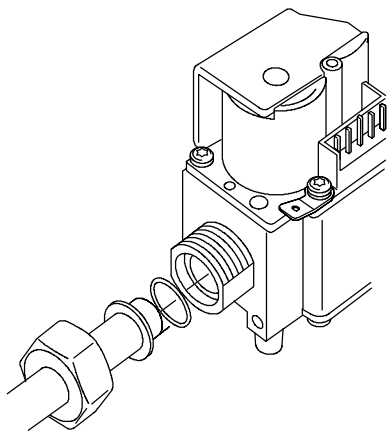

Fig. 6. External thread connection with nut and "O"-ring
- ④ **With 3/4" nut and "O"-ring (see fig 6.)**